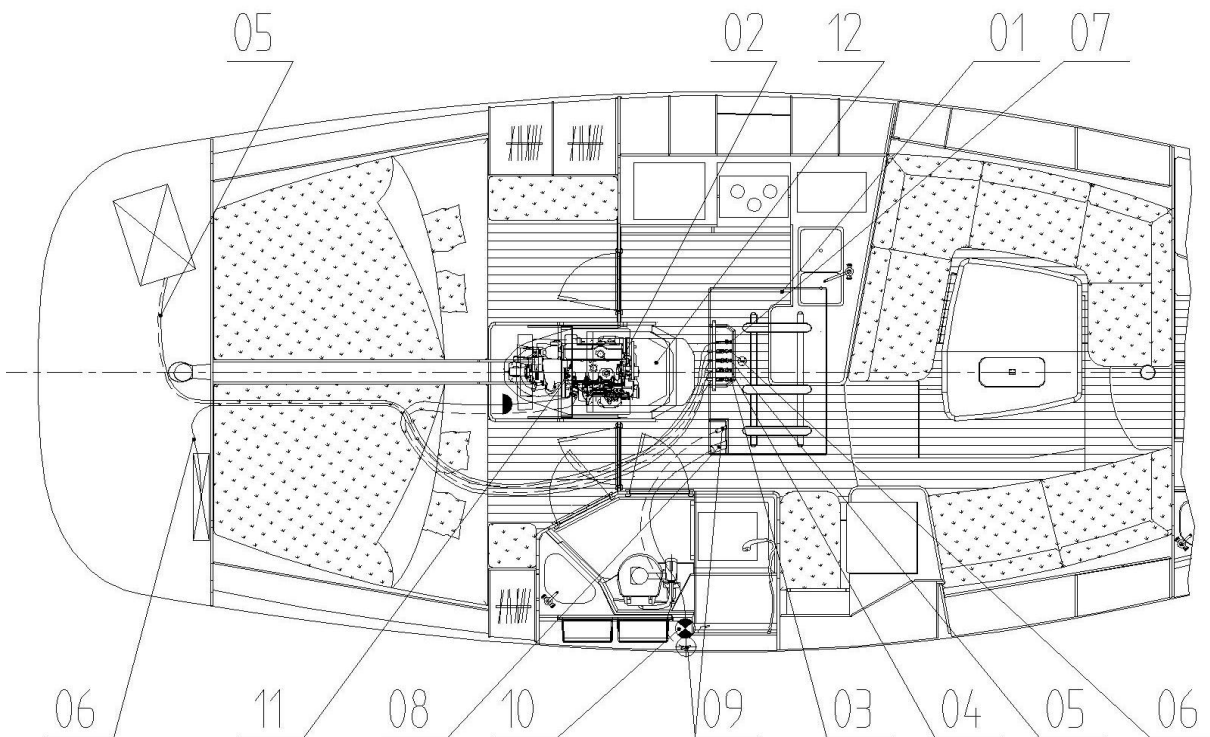

Figure 8
The fuel required for engine operation is stored in a fuel tank. The fuel tank has a capacity of 230 liters. The fuel tank is stowed under the galley floor (see Fig. 8). Fuel tank is accessed from the saloon by lifting the floor panels.
- Fill the fuel tank with diesel via the deck filler. The position of the deck filler is shown in Fig.8